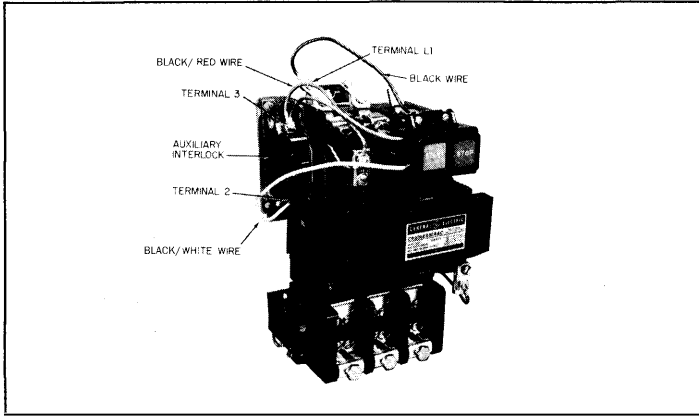

Figure 5.
10. Wire pilot device outlined under each specific kit as shown in Figures 5, 6, or 7 on back page.
**CR305X320B Push Button (Figure 5)**